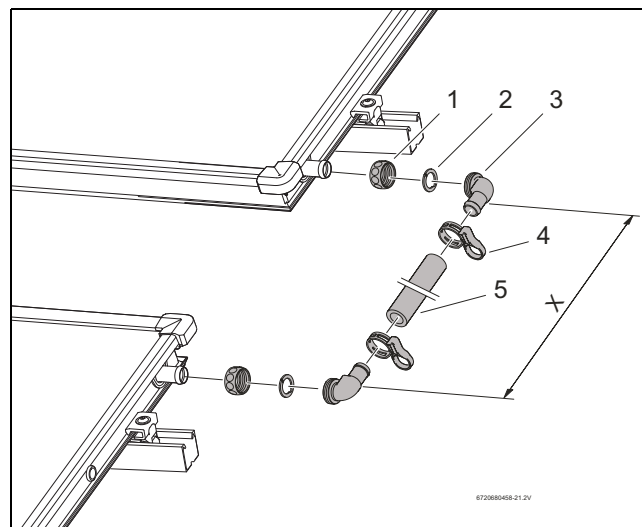

Fig. 58 Connection set between two rows of collectors
- Push union nut (Fig. 58, [1]) over the collector union.
- Place collector bracket (Fig. 58, [2]) behind the collector connection stiffener.
- Press collector bracket with O-ring (Fig. 58, [3]) onto the connection, align and secure with a union nut.
- Measure the distance between the angular peaks (measurement X) on the collectors and trim the hose (Fig. 58, [5]) accordingly.
- Insert solar hoses in collector brackets and secure with hose clip (Fig. 58, [4]).